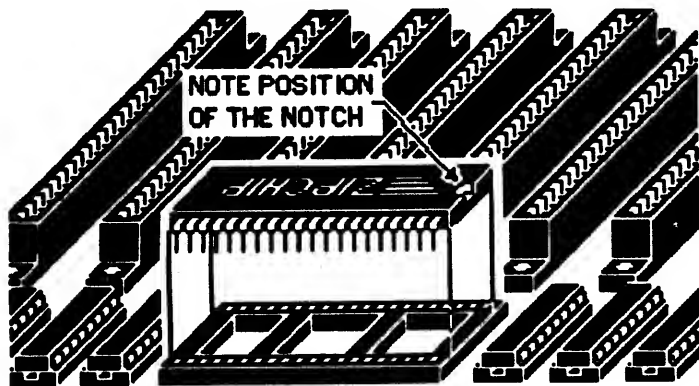

Figure 3: Installing ZIP CHIP In an Apple II Plus
9. Take the ZIP CHIP and place it over the empty socket. Be sure the notched end matches *Figure 3* (Page 4).